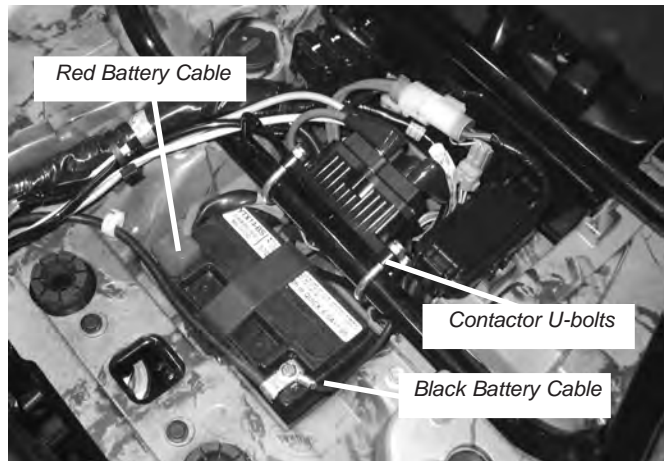

Figure 36 Electrical Connection - Battery Connection
- d. Route battery electrical cables (red and black) under the frame tube from the contactor to the battery, figure 36. Attach the black wire to the negative terminal on the battery. Attach the red wire to the positive battery terminal. Reposition the protective boot over the positive battery terminal.